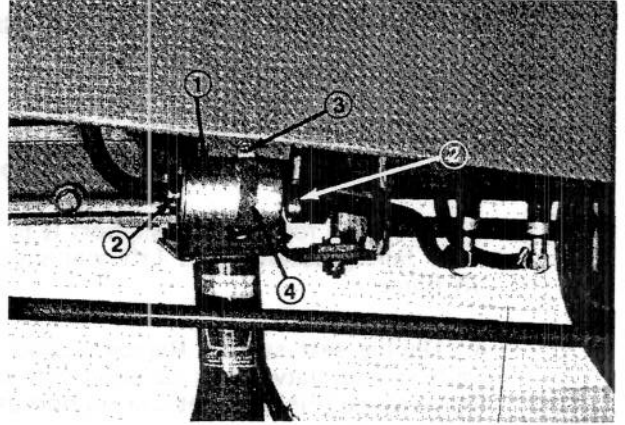

Figure 71
1. Clamp both fuel lines that connect to the fuel filter (Fig. 71) so gasoline cannot drain when lines are removed.
2. Loosen the hose clamps (Fig. 71) at both ends of the filter and pull fuel lines off filter.
3. Remove capscrew, lockwasher and nut holding filter clamp against frame (Fig. 71). Slide filter out of clamp.